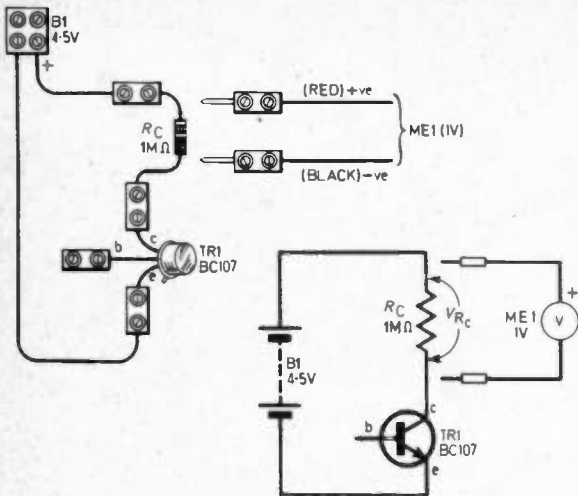

Fig. 7D.1. Positioning and wiring up details on the Circuit Deck for experiment 7D together with the theoretical circuit diagram.
1. Set up the components on the Circuit Deck according to Fig. 7D.1 and measure the voltage across the collector resistor (V_{Rc}) using the meter on the 1 volt range and fixed to the terminals.